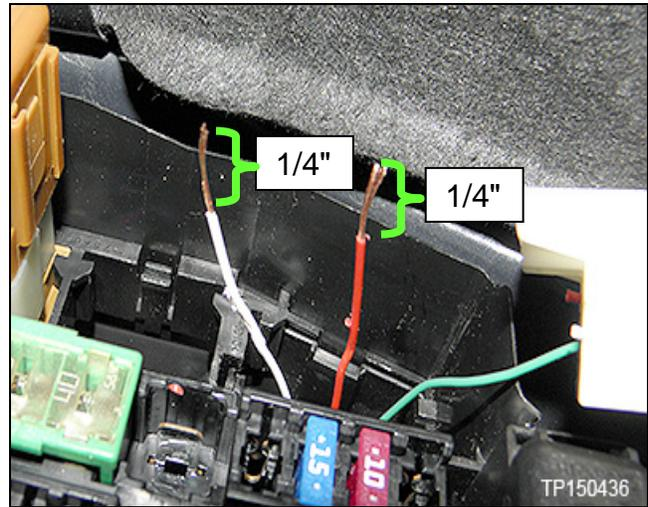

Figure 6
7. Strip approximately 1/4" from the ends of both the red and the white wires (Figure 6).